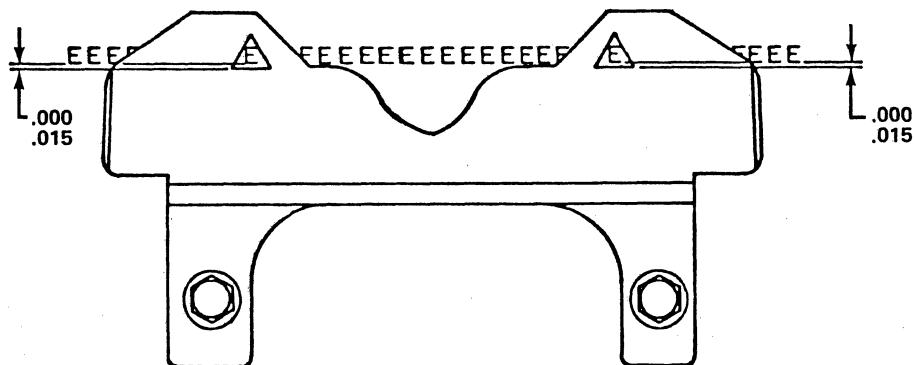

Figure 5-24 CARD GUIDE ALIGNMENT
- # Refer to Figure 5-24. Check the alignment of the card guide. As shown, the bottom lines of the printed A's must be even with the bottom edges of the triangular openings (A1) in the card guide (A) within .000" to .010" as shown. Make minor adjustments to the card guide height as required to achieve proper card guide positioning. See NOTE in subsection 5.4.4.3 step 2.